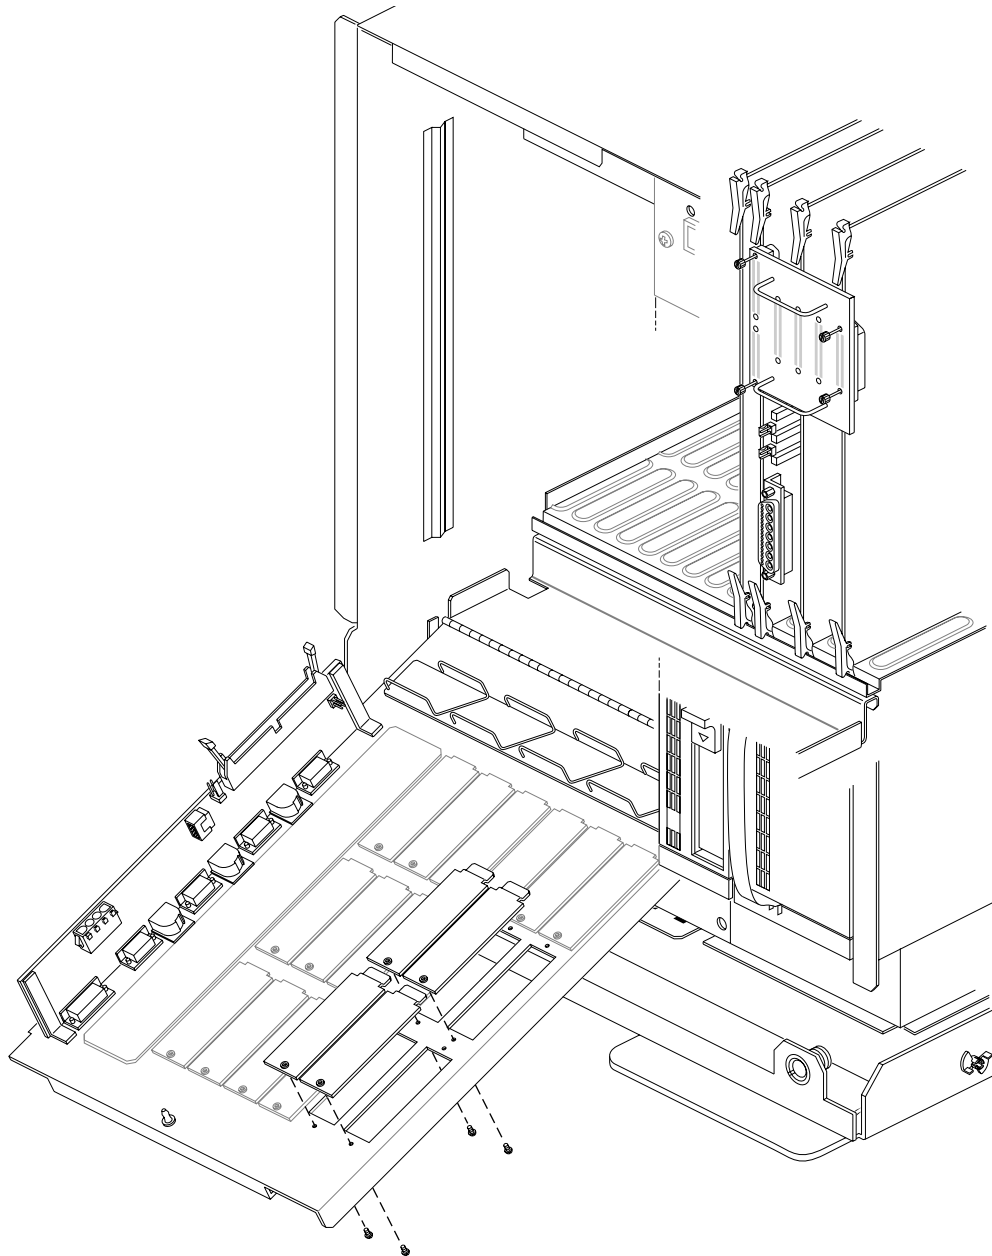

Figure 3-17 I/O Door Plate Removal for RealityEngine
2. Remove two side-by-side pairs (total of four) spare I/O plates from the door, as shown in Figure 3-17. Use the vacated GRB plate slot if possible. Save the screws for installing the new connector plates.